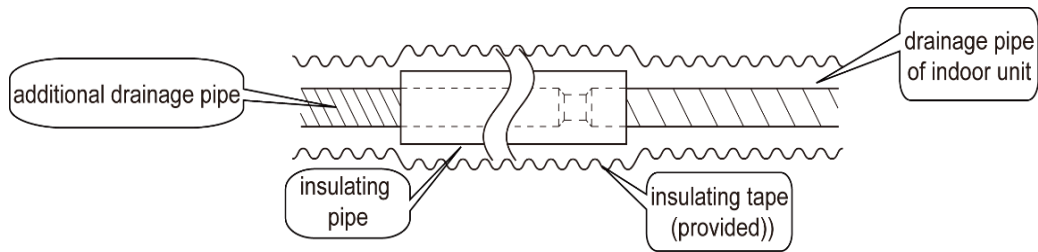

Fig9
3. Install the drainage pipe according to the following (Fig9) and attach the insulation to the drainage pipe. **NOTE:** Improper installation may lead to water leakage.